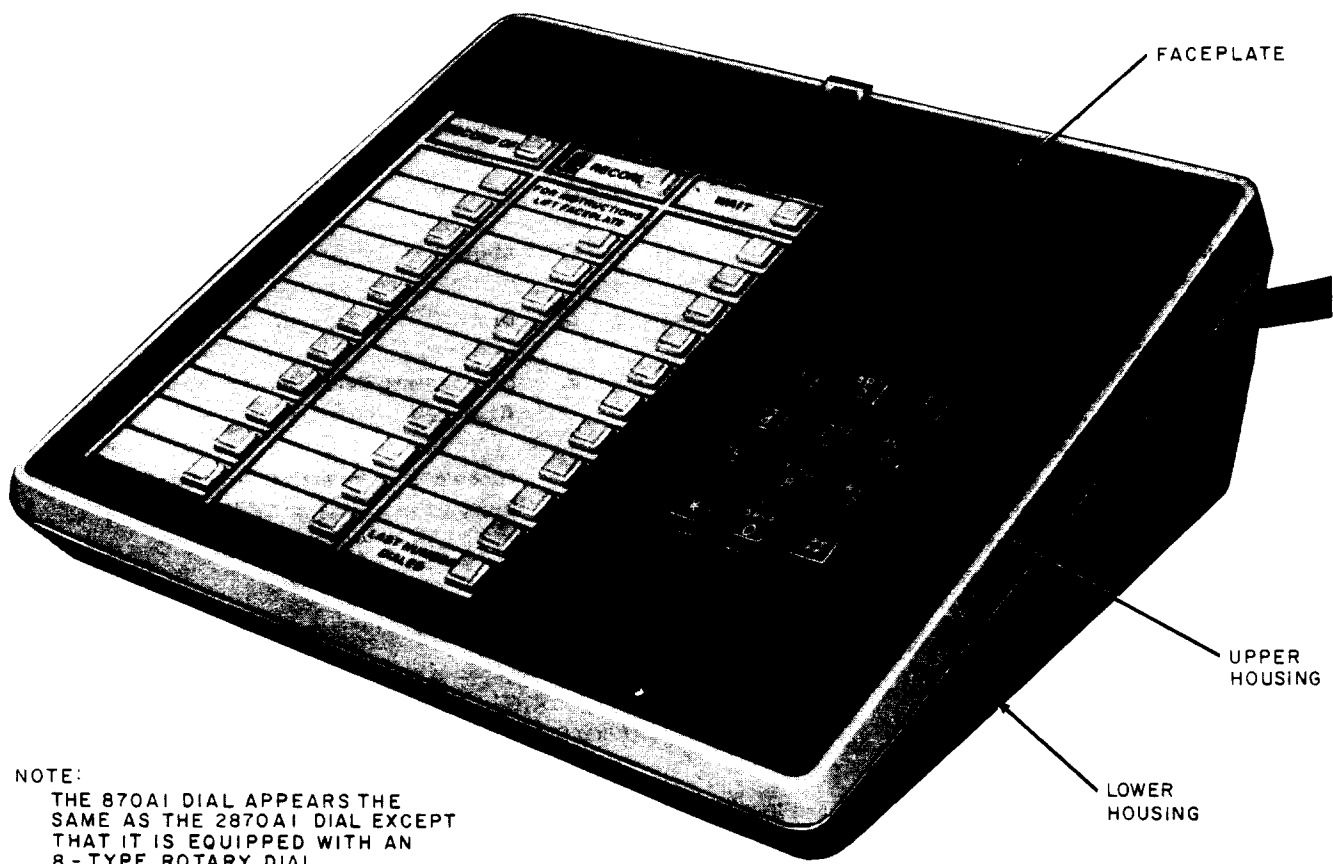

Fig. 1—2870A1 Dial
2.10 Operating features (Fig. 1) are as follows.